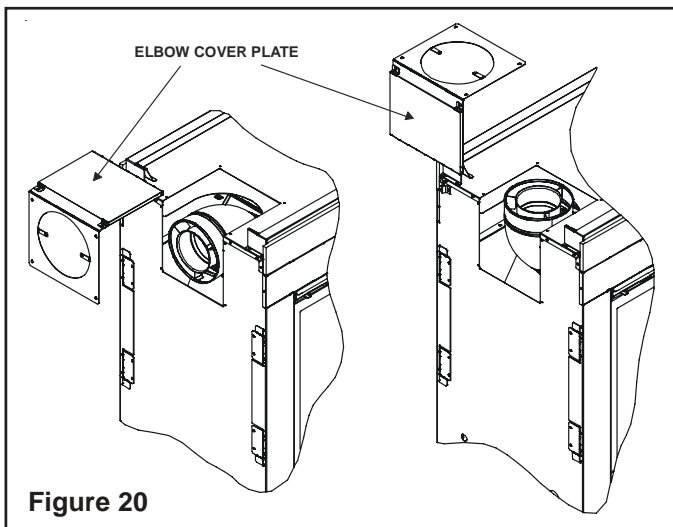

Figure 20
- • To vent off the unit horizontally, the elbow cover plate must first be removed from the unit (see Figure 20).